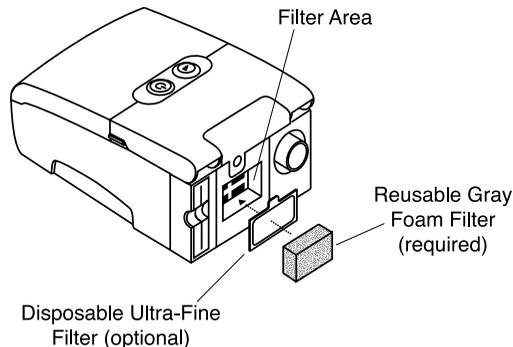

FIGURE 7-2 REINSTALLING THE FILTERS
6. Reinstall the filters, inserting the white ultra-fine filter first if applicable, as shown in Figure 7-2.